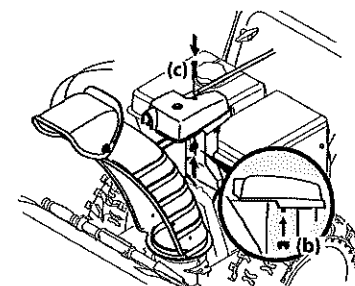

Figure 2-31
4. Finish securing chute control head by installing hex screw (c) and wing nut (b) removed in Step 1. See Figure 2-31.